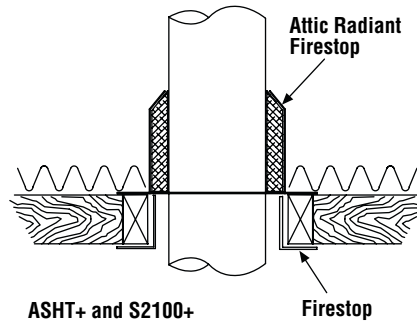
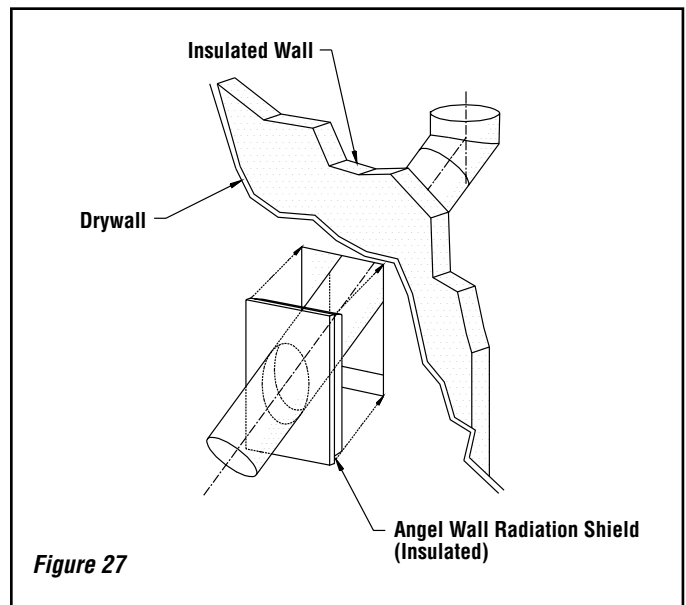

Figure 20A
Figure 27
2. From below, install a firestop in each ceiling/floor separation through which the chimney will pass. At the attic level, install an attic radiation shield from above (see **Figures 20A and 20B**).
1. Install the first elbow. Turn it in the required direction. Fasten it to the chimney with the three (3) 1/2" (12mm) metal screws provided.
2. Install the necessary lengths to achieve the required offset. Lock the chimney lengths together: it is recommended to use three (3) 1/2" (12mm) screws. If the offset length is made of two (2) chimney lengths use an offset support halfway up the offset. If penetrating a wall, install a wall radiation shield (see **Figure 27**).
3. Use another elbow to turn the chimney vertically. Secure the elbow, using three (3) 1/2" (12mm) screws (provided with the elbow).
5. From below, install a radiation shield (**Figure 20A**).
2. Install the necessary chimney lengths to achieve the required offset. Lock the chimney lengths together. If penetrating a wall, use a wall radiation shield (**Figure 27**).
When traversing a combustible wall with the chimney at a 30° or 45° angle, an angled firestop and/or wall radiation shield must be installed. Only one is required (**Figure 27**). **Table 6** gives recommended hole size for installing a wall radiation shield.